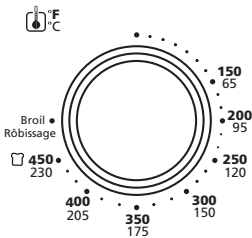

Figure 1
2. **Temperature Selector/Function Selector Knob** – Adjust the thermostat dial to the desired temperature. Select cooking function by turning knob to desired setting. (See Figure 1)